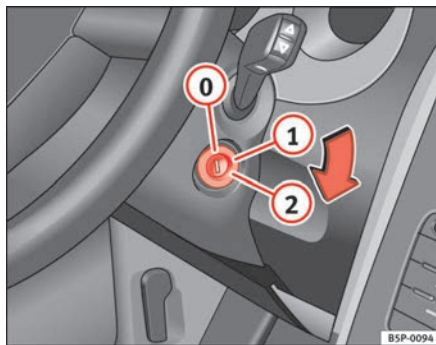

Fig. 136 Ignition key positions
In this position ⇒ fig. 136 the ignition and the engine are OFF and the steering may be locked.
- Turn the ignition key to position ⇒ page 167, fig. 136 ①. The indication lamp  will light for engine pre-heating.
- When the warning lamp turns off, turn the key to position ② to start the engine. Do not press the accelerator.
- Turn the ignition key to position ⇒ page 167, fig. 136 .